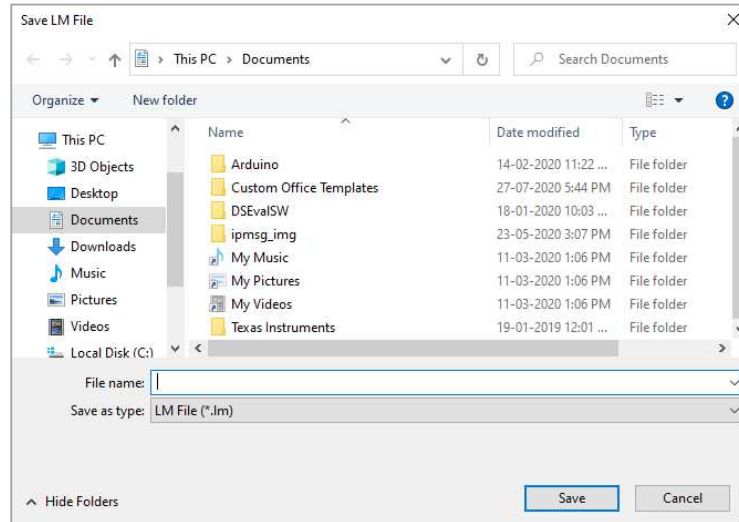

Figure 14 Selecting file location for saving data summary
- Select the download option, choose the appropriate file path and batch file name for saving the data file and press button in the pop-up window as shown in figure 14.